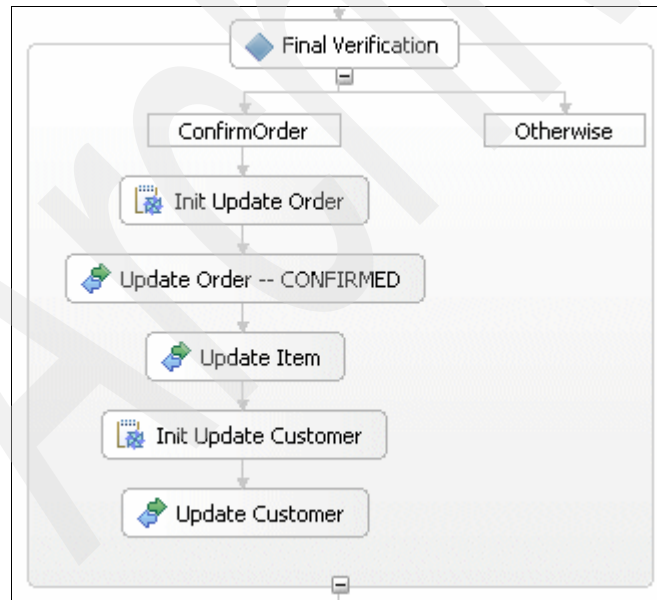

Figure 3-177 Confirm Order design
7. Verify the Confirm Order design as shown in Figure 3-177.